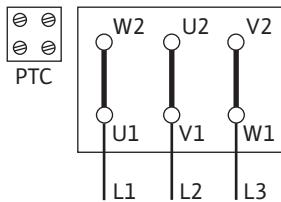

Fig. 10: Y- Δ start
- The mains connection is dependent on the motor power P2, mains voltage and activation type. Refer to the following table and Fig. 10, 11 and 12 for the required connection of the connection bridges in the terminal box.